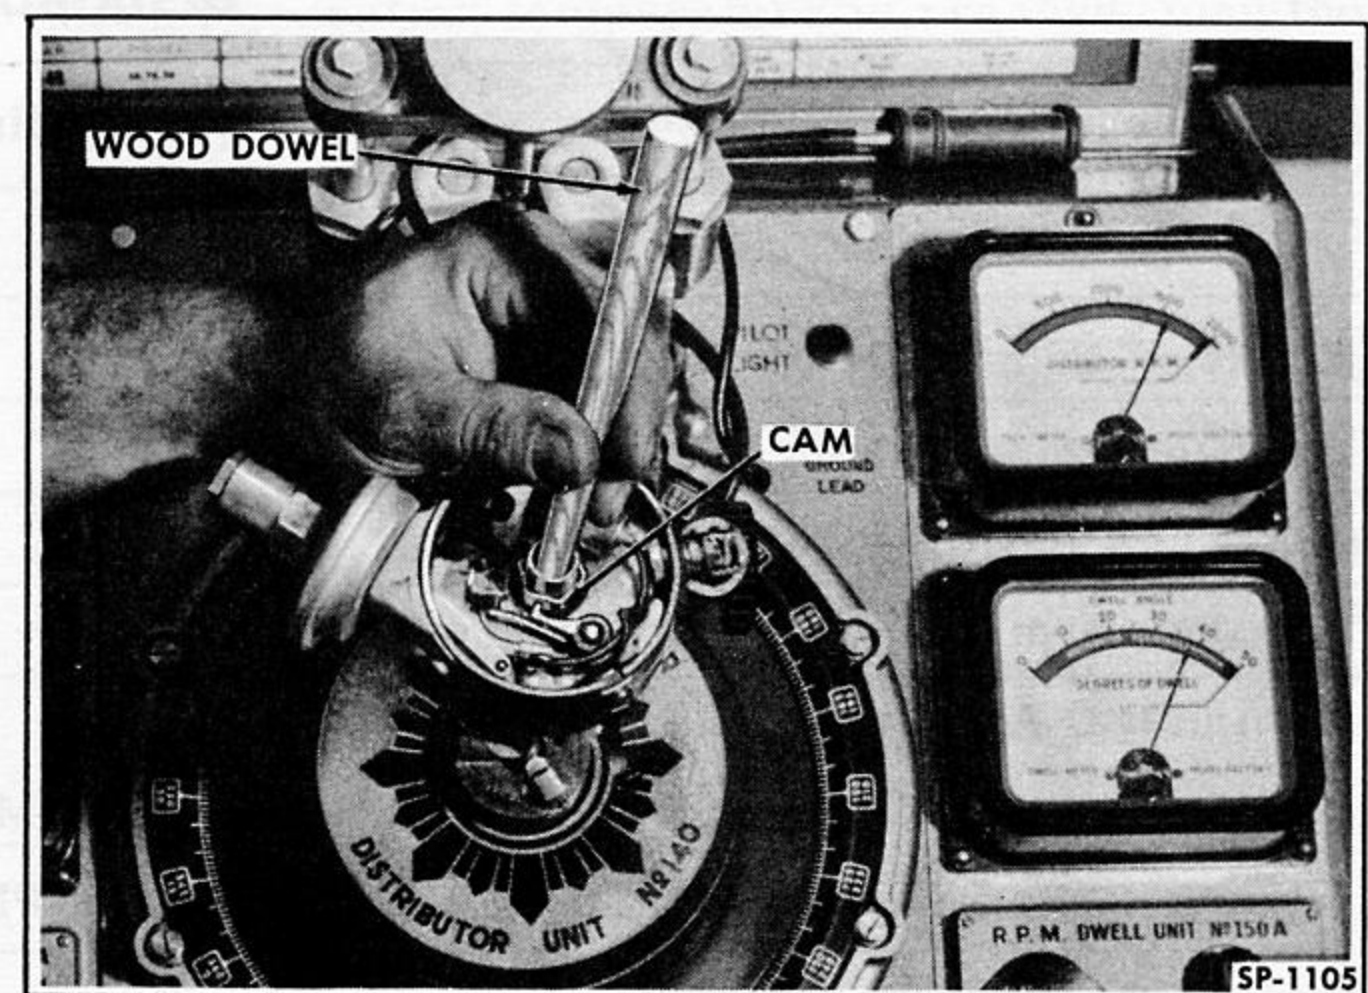

Fig. 13—Checking Distributor Shaft and Bearing Wear
1. Check cam and bearing play. Drive the distributor at low speed and, with a wood dowel in the end of the cam as shown in Fig. 13, apply pressure alternately toward and away from breaker arm rubbing block. Play resulting from shaft and bearing wear will change both the spark position indication on degree ring and the dwell angle reading. Variation should be no more than 1.5 degrees on the degree ring or 3 degrees on the dwell angle indicator. Instructions for bearing replacement are provided in Section 15, "Electrical."